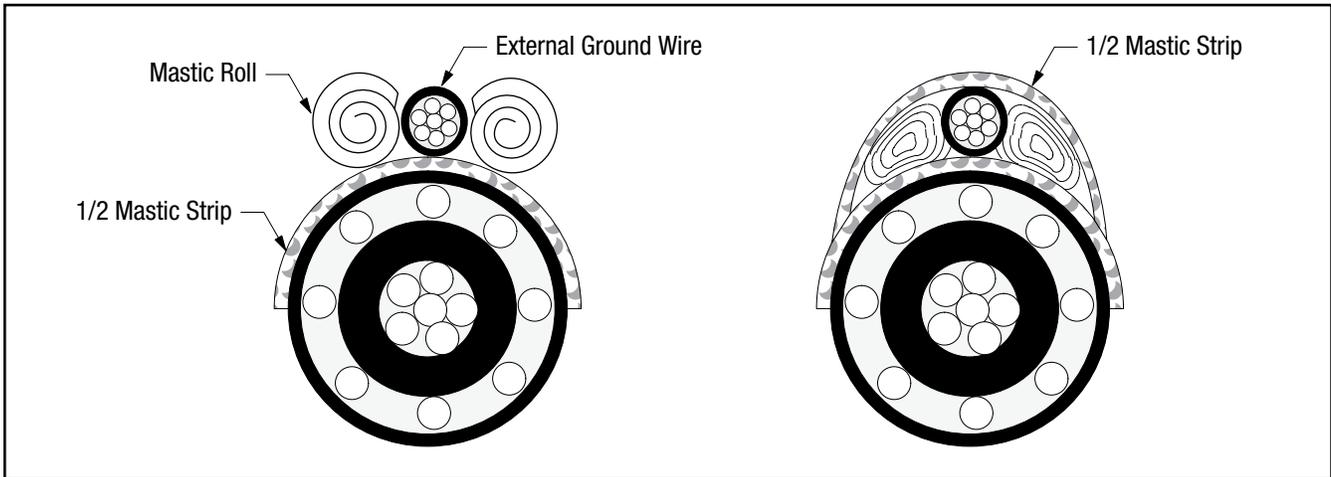

Figure 5
3.4 Place one small mastic roll on each side of the ground wire. Place the other half strip over ground wire and two rolls. Press-the mastic around the ground wire and to the cable jacket (Figure 5).